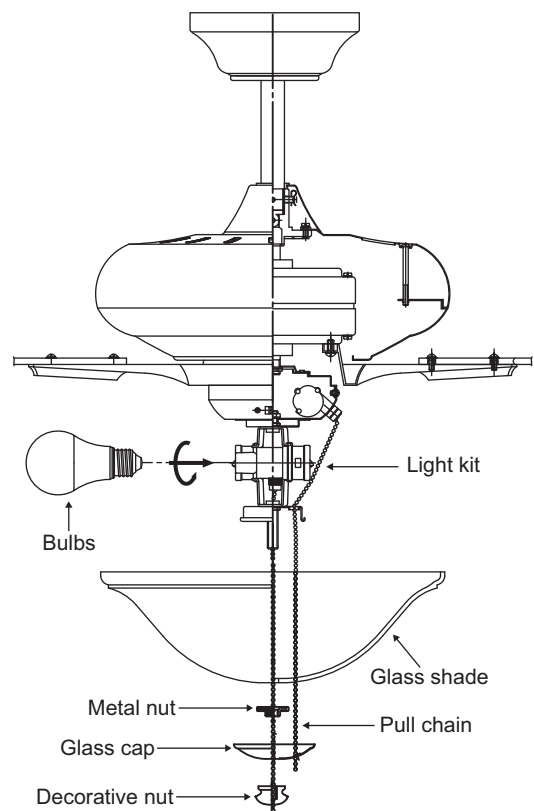

Figure 20
1. Install 2 x E27/9W LED bulbs (provided). (Fig. 20)
2. Remove the decorative nut, glass cap and metal nut from the light kit. Place glass shade over the light kit stem, secure with the metal nut (rubber side on the top) glass cap and decorative nut. Do not overtighten. Secure tightly the glass frame and decorative nut. (Fig. 20)
3. Insert the 2 pull chain through the eyelet in the shade and cap. (Fig. 20)